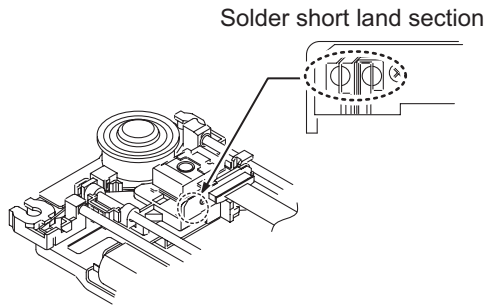

Fig.5
(5) Solder the solder part of DVD pickup up. (See Fig.5)